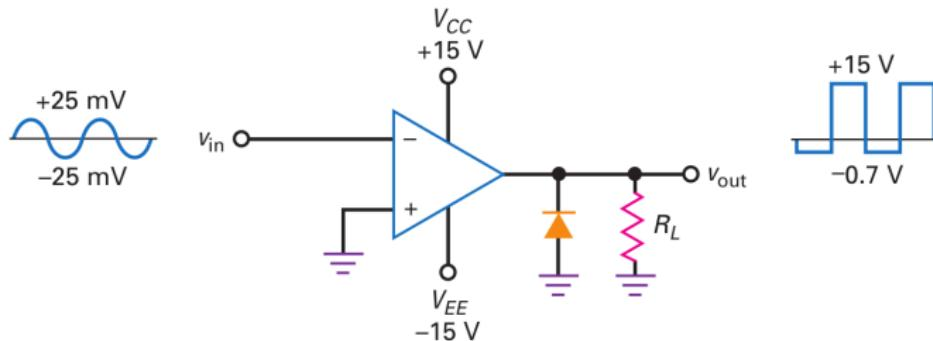

Figure 14: Bounded outputs using rectifier diode
- ▶ Fig. 14 shows another example of a bounded output.